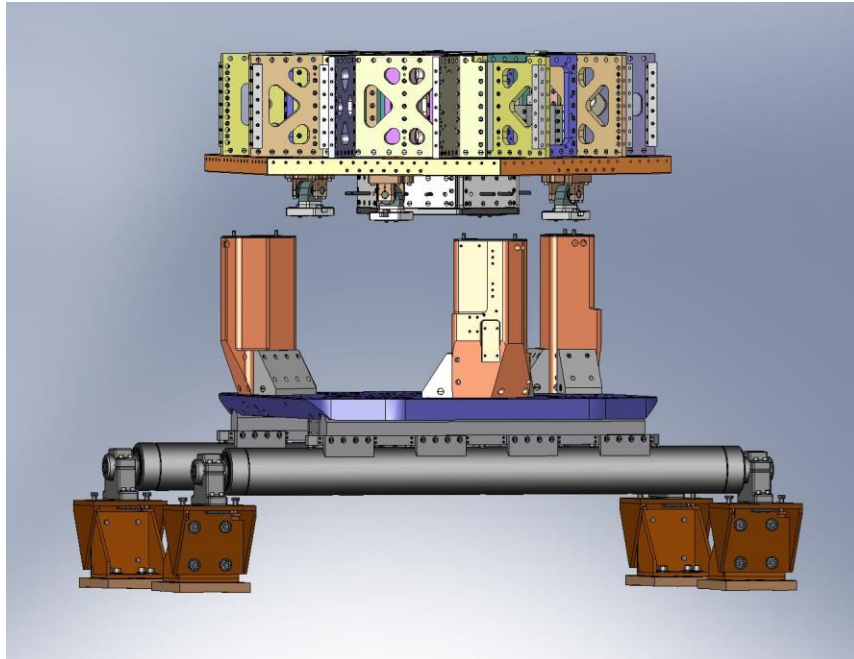

Figure 4.76. Stage 1 positioned over Stage 0 (lifting straps and crane not shown).
- Use overhead crane to lift **Stage 1** (D071420) off the **Assembly Stand**. Move **Stage 1** over **Stage 0** (D071410), as shown in Figure 4.76.